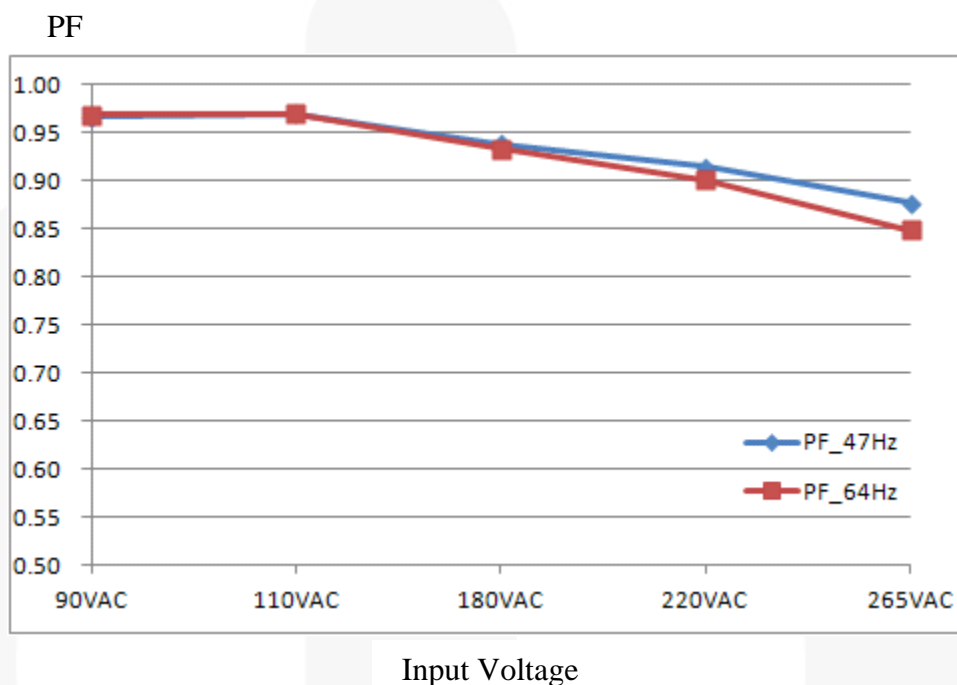

Figure 28. Power Factor
Figure 28 shows the system Power Factor (PF) performance for the entire input voltage range (90V_{AC} to 265V_{AC}) at different input frequency conditions (47Hz, 64Hz). The PF changes slightly according to the input frequency, but can achieve over 0.85 at 265V_{AC} condition.